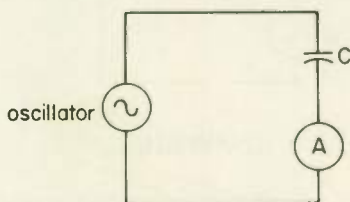

Fig. 17
2. You connect an audio oscillator supplying a voltage of 10 volts to the circuit of Fig. 17 containing a capacitive reactance of 1000 ohms and an a-c ammeter. What will be the reading on the meter?